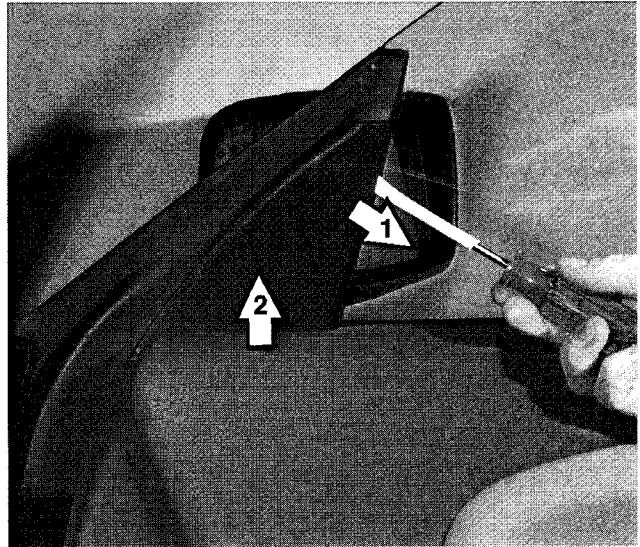

Fig. 4. Pry plastic trim in direction of arrow 1, then lift off in direction of arrow 2.
1. Remove triangular trim plate by prying and lifting gently from door frame. See Fig. 4. Unhook harness splice connector from base of trim plate.